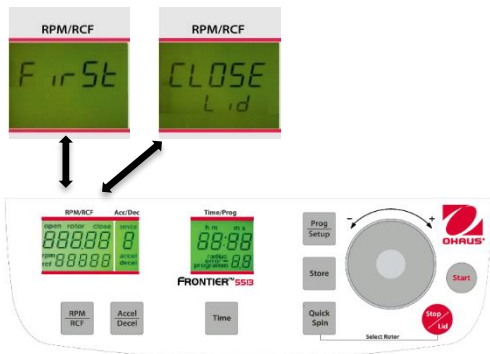
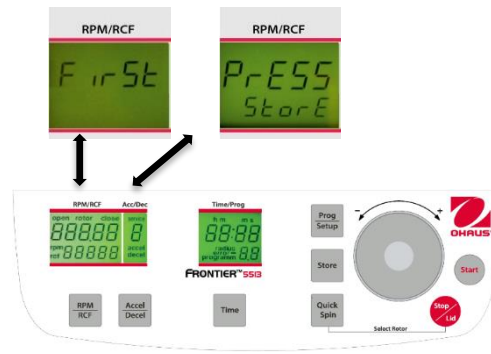

Figure. 21
Figure. 22
Close the lid of the centrifuge. Now proceed as described previously to set all important run parameters. If the lid isn't closed when storing the program, in the display "RPM/RCF" (A-1), the words "FirSt" and "CLOSE Lid" (See figure 21) flashes alternately. If you want to start the run without storing the program, in the display "RPM/RCF" (A-1), the words "First" and "PrESS StoreE" (See figure 22) flashes alternately.
For adaption of data press the key **"Store"** (2) (refer to figures 21 and 22) for approx. 1 second. If the program is stored correctly, the word **"Store"** appears in the display **"RPM/RCF"** (A-1). As a result, the word **"programm"** (M10) disappears.